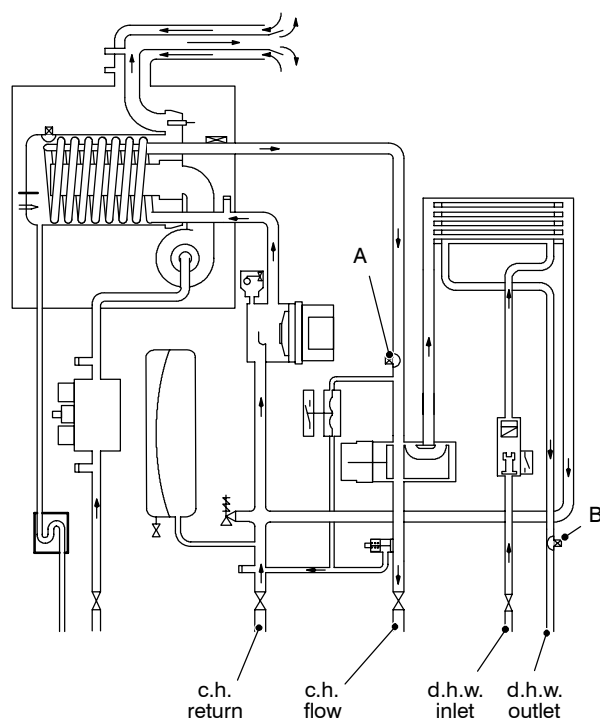
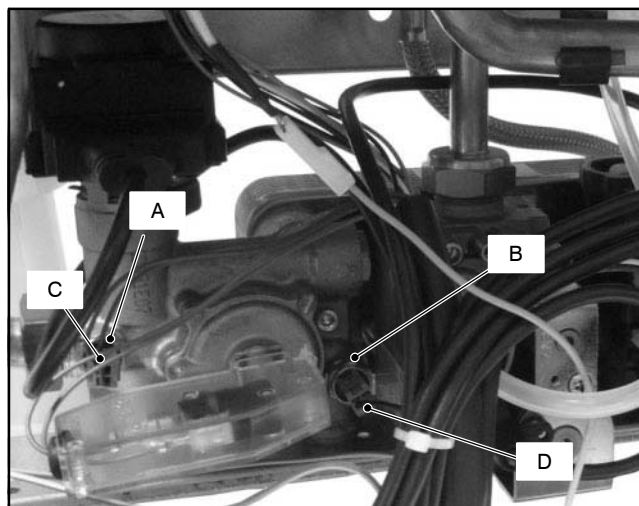
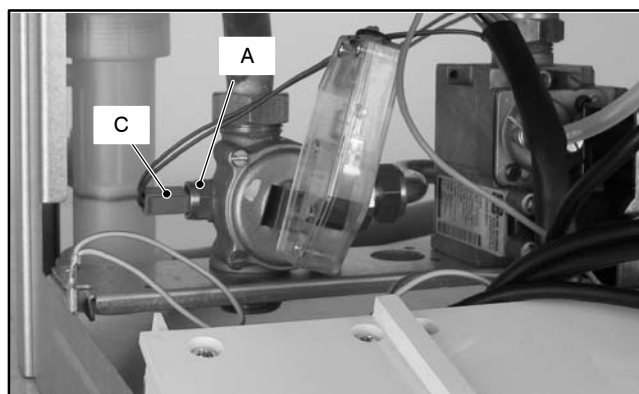

Fig. 15.2
Fig. 15.3
Fig. 15.4
On the boiler there are two Temperature probes. One on the output of the primary condensing heat exchanger (c.h. Temperature probe) A in Fig. 15.2 and Fig. 15.3; one on the output of the d.h.w. heat exchanger (d.h.w. Temperature probe) B in Fig. 15.2 and Fig. 15.3.
- 3 Remove the electric connector C and unscrew the c.h. Temperature probe A – Fig. 15.3 or Fig. 15.4
- 3 Remove the electric connector *D* and unscrew the d.h.w. Temperature probe *B* – Fig. 15.3